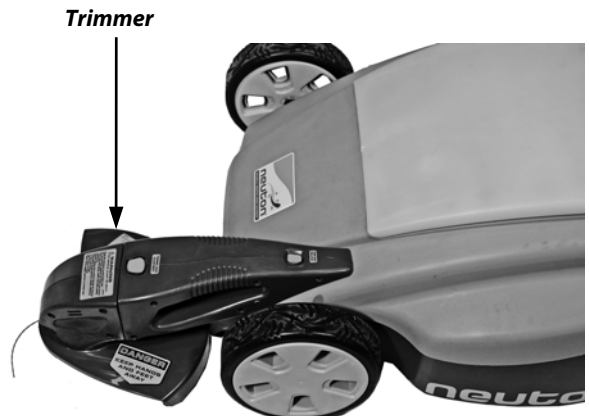

Figure 26
The NEUTON Trimmer is a unique attachment that, when used with your NEUTON Mower (**Figure 26**), enables you to trim and edge your lawn and yard without having to buy a separate trimmer and edger – it's like having three (3) machines in one (1). The Trimmer simply plugs into the front of your Mower.